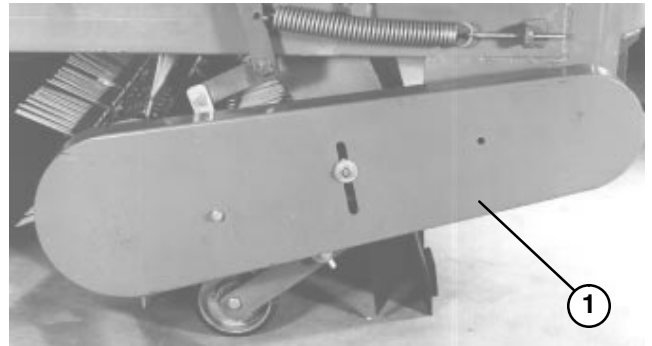
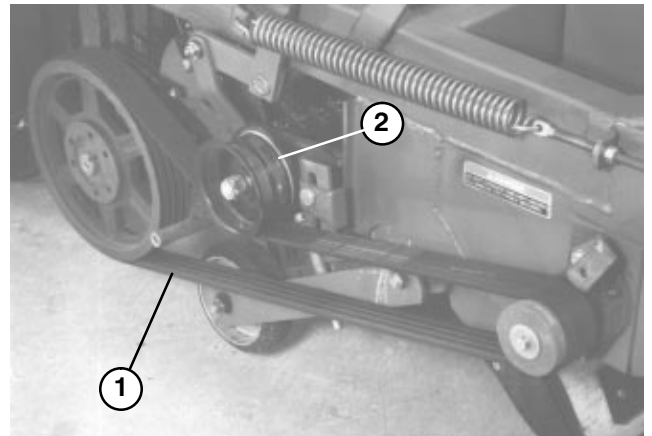

Figure 38
Figure 39
Reel Drive Belt (Fig. 38–39)
A. Remove (2) capscrews, nut, retaining nut and washer securing lower belt guard to frame (Fig. 38). Remove guard.
B. If belt has too much slack, loosen idler pulley nut (Fig. 39), press down on idler pulley until desired tension is obtained and retighten idler pulley nut.
C. If belt is too tight, loosen idler pulley nut (Fig. 39), pull upward on idler pulley until desired tension is obtained and retighten idler pulley nut.
3. Remove lower belt guard (Fig. 38) and reel drive belt (Fig. 39).
4. Remove (2) capscrews, lockwashers and nuts securing reel shaft bearings to reel support arms on each side of sweeper. Lower flex tip reel to the ground.
1. Remove lower belt guard (Fig. 38) and reel drive belt (Fig. 39).